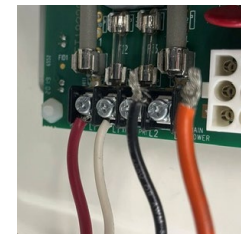

Fig.3
3. Reconnect the four power supply wires according to Fig. 3
NOTE: Wires go in order from left to right: Red, White, Black, Orange, Fig 3.